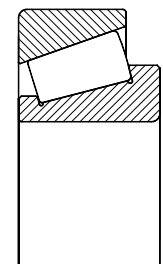

Fig. 2.12
**Tapered roller bearings** (fig. 2.12) are normally separable radial bearings. They comprise of a cone assembly (i.e. inner ring, with cage and roller assembly) and separable “cup” (i.e. outer ring). Due to the contact angle each radial load applied on a tapered roller bearing generates an internal thrust force. Since single row tapered roller bearings accommodate thrust loads in one direction only they have to be arranged against a second taper roller bearing to accommodate thrust loading in the opposite direction. Tapered roller bearings support high radial and thrust forces even at high speeds.